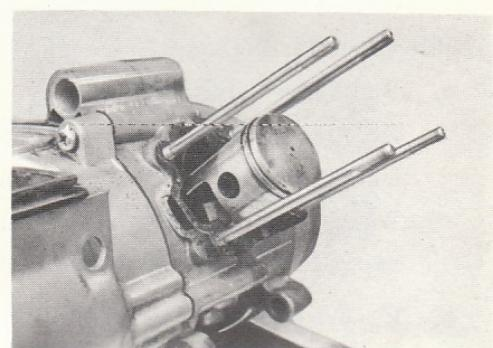

Fig. 3-17
- a. Always use a new cylinder gasket. (Fig. 3-17)